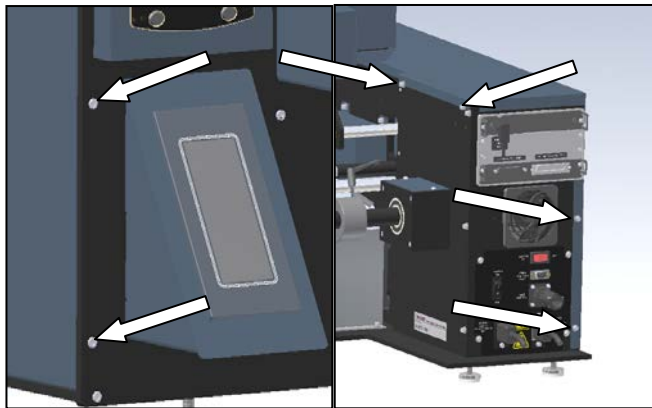

Figure 3-39. Frame Cover Screws
2. Remove the six screws holding the Frame Cover. Set screws and Frame Cover aside (Figure 3-39).